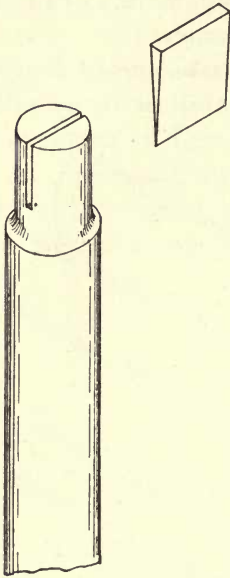

FIG. 32. — WEDGING ENDS OF CROSSBAR.
15. **Trimming the ends of the crossbar.** — The ends of the hickory crossbar should be rounded off for a distance of about 3" from each end. (Fig. 32.) If the bar is considerably too large, it will
16. **Wedging the ends of the crossbar.** — Saw slits in the end of the crossbar to a depth of about  $2\frac{1}{2}$ "', as in Fig. 32, and make two wedges also of hickory similar to that shown in Fig. 32. Drive the crossbar into the hole and wedge. Repeat for the other end and saw off the projections flush with the surface of the legs.